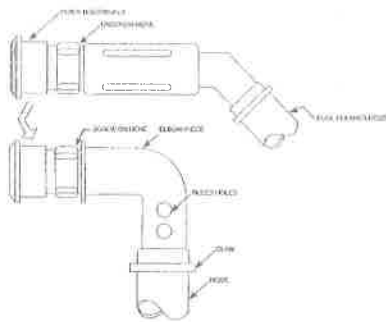

FIGURE 7
- Pool cleaner quick disconnect fittings Refer to Figure 7. Use Installation Instruction 4, page 6 for this type inlet.
2. Unscrew the end of your pool cleaner hose fitting as indicated in Figure 7. Screw the quick disconnect fitting on to the threaded end of the Elbow Piece(6). Tie to your inlet adapter.
3. Refer to Figure 1. Uncoil the hose (3) and remove all twists. Using clamps(15), clamp one end of the hose to the back side of the fountainhead (1) and the other end to the inlet adapter from step 2. Cover one set of bleed holes with the hose (Fig 7). To tighten clamp, grasp "tab" between thumb and forefinger and squeeze. Tighten securely with a pair of pliers. To open the clamp, grip one "tab" of the clamp with pliers and twist loose.
4. Using the tie wrap(14), LOOSELY attach the anchor(4) to the hose (3) the anchor(4) should be attached to the hose(3) at a point as deep as the water plus approximately two feet. You will have to estimate what the water depth is when you want the fountain and add two feet. CAUTION: DO NOT CONSTRICT THE HOSE BY TIGHTENING THE TIE WRAP (14) TOO TIGHT.
6. Place the fountain assembly into the pool. Position the fountain in the desired location being careful not to crimp the hose (3).
Height adjustment is achieved by covering more or less of the bleed holes(Fig 7) on your elbow piece(6) with the hose(3). The more holes covered, the higher the fountain and vice versa.